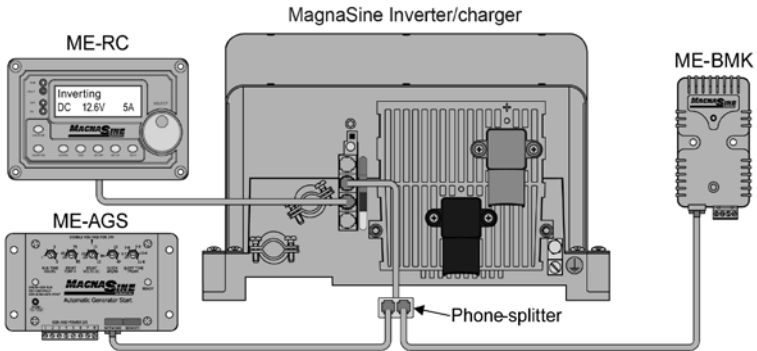

Figure 2-4, Multiple Network Devices - Star Configuration
- **Star Configuration** - In the star arrangement the network devices all connect to the "network" port via a phone-splitter to the inverter using individual cable runs (see figure 2-4). Since each device is independently connected to the inverter's "MagnaSine Net" or "network" port, problems in a cable or a device can be easily isolated; and if there is a cable failure to one device, it does not bring down all the other devices.